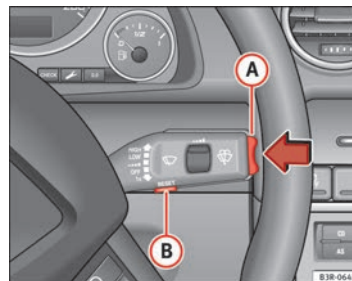

Fig. 60 Windscreen wiper lever: Onboard computer controls
Press RESET button **(B)** ⇒ Fig. 60 to switch back and forward between onboard computer functions 1 and 2.
The driving time warning can be switched off by briefly pressing the function selector switch or the **Reset** button ⇒ Fig. 60.
- Press the top or bottom of the function selector switch **(A)** ⇒ Fig. 60. This displays the functions of the onboard computer in sequence.